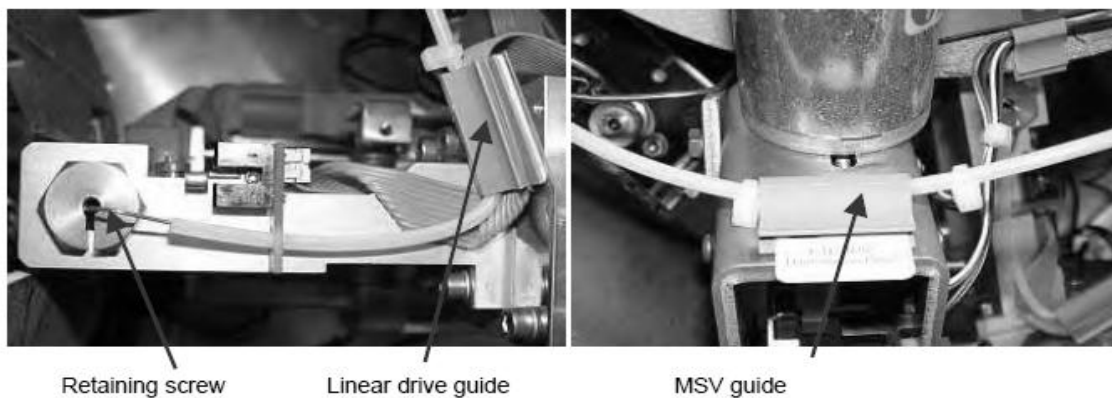

Figure 2. Parts of the needle capillary.
- 8.2.1.6. Remove the retaining screw on top of the needle arm using a 17-mm spanner. While loosening the screw make sure that the needle capillary is situated in the whole of the screw and is not in its lateral slot (See Figure 2).
- 8.2.1.7. Before you push up and remove the needle from the needle guide, remove the needle capillary from their 3 guides (on the linear drive, on the MSV enclosure and on the green printed circuit board (See Figure 2).